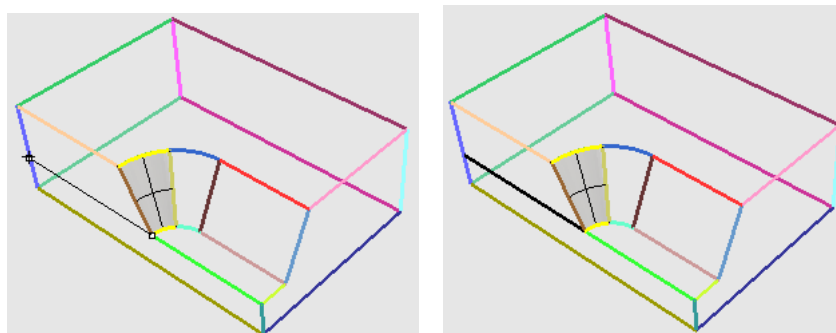

Figure 65: Building the first construction line
6. Select **Curve|Line|Single Line**. Click on the lower-left **corner** of the surface you just built to set the first point of the first construction line (Figure 65, left). Move your cursor **over** the vertical line opposite the first point (Figure 65, left). As you **move** your cursor up and down the vertical line, stop when a bubble with the word **Perp** pops up. This is the location on the vertical line where the line you are building will be **perpendicular** to it. Click when **Perp** pops up to set the second point of the line (Figure 65, right).